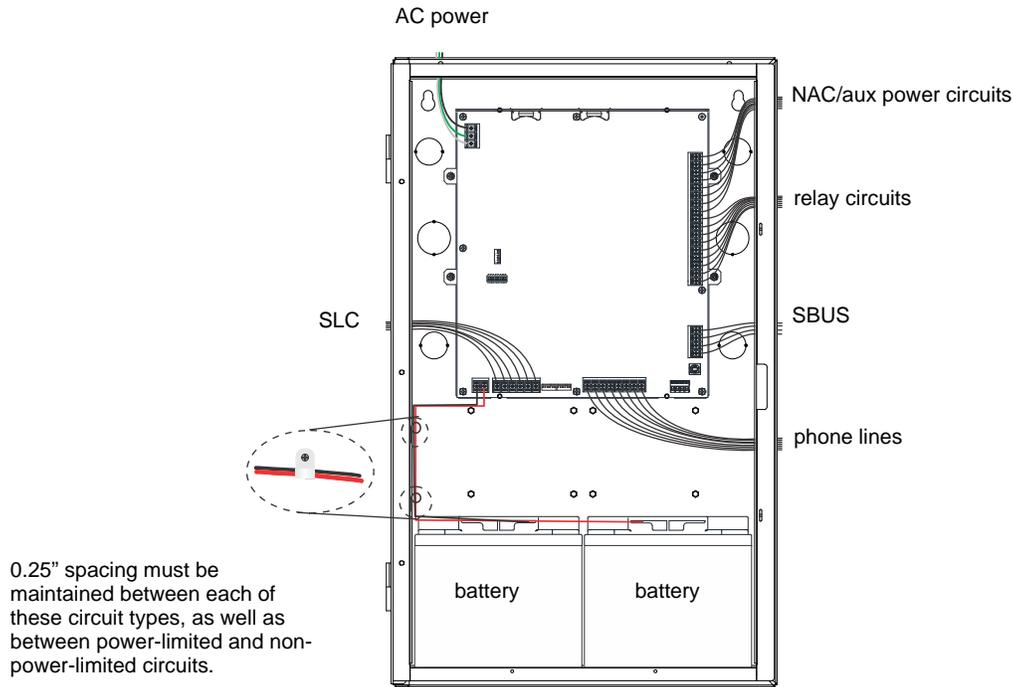

Figure 4.3 Wire Routing Example for IFP-300
- Route the wiring around the inside perimeter of the cabinet. It should not cross the circuit board where it could induce noise into the sensitive microelectronics or pick up unwanted RF noise from the high speed circuits. See Figure 4.3 for an example.
**NOTE:** Figure 4.3 is an example of how the wire connections can be routed. However, any other cabinet knock-outs (on either the main control panel or the RBB cabinet), that are not previously being used may be utilized to connect conduit between the two cabinets.